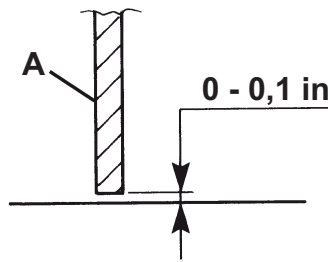
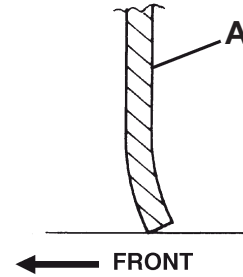
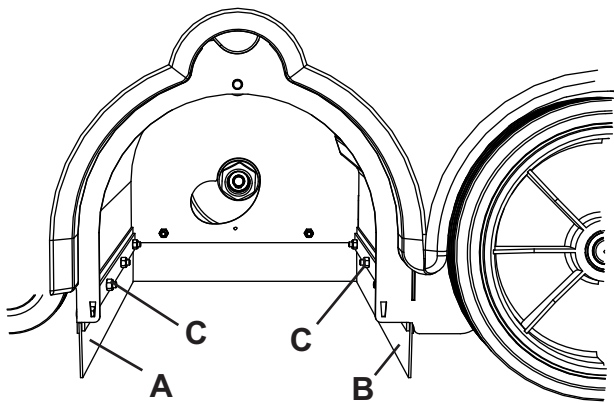

Figure 18
Figure 19
Figure 20
2. Check the front (A, Fig. 20) and rear skirts (B) for integrity.
- The front skirt (A, Fig. 20) slightly touches the floor (A, Fig. 19).
- The distance from the ground of the rear skirt (B, Fig. 20) is within 0 – 0.1 in (0 – 3 mm) (A, Fig. 18).
5. If necessary, adjust the skirt height by using the slots (C, Fig. 20).